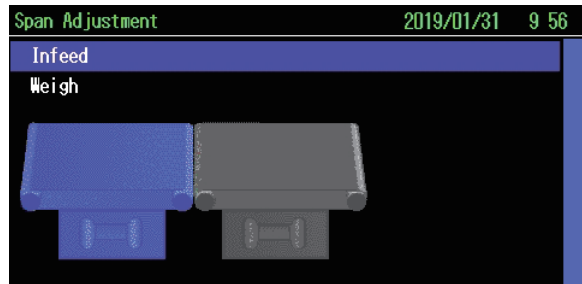

Fig. 6-197
▶ The screen to select the conveyor to perform span adjustment ("Fig. 6-197 ") is displayed.